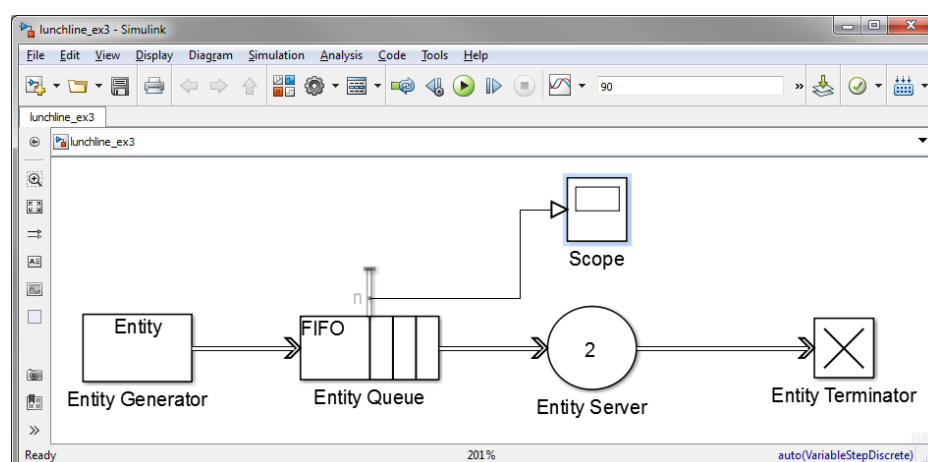

Figure 9: Exercise 3
4. Add and configure the blocks from Table 2, then connect as shown in Figure 9.